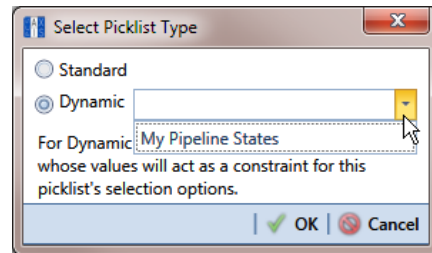

Figure 3-52. Select Picklist Type
- 3 Click  **Picklist** in the toolbar of the *Field and UDF Customizations* window to open the *Select Picklist Type* dialog box (Figure 3-52).